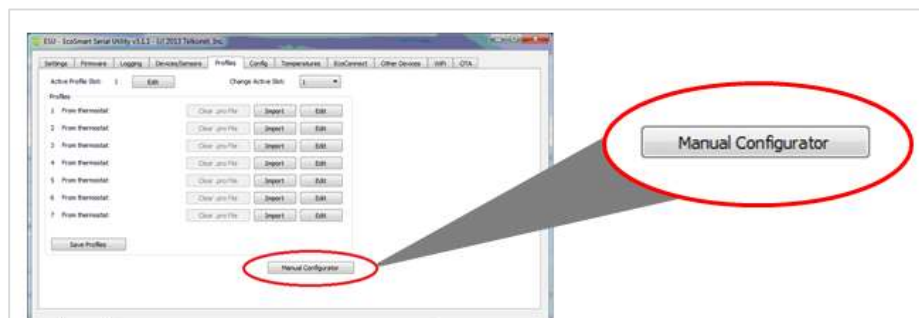

Figure 1
6. Select the **Manual Configurator** button (Figure 1).